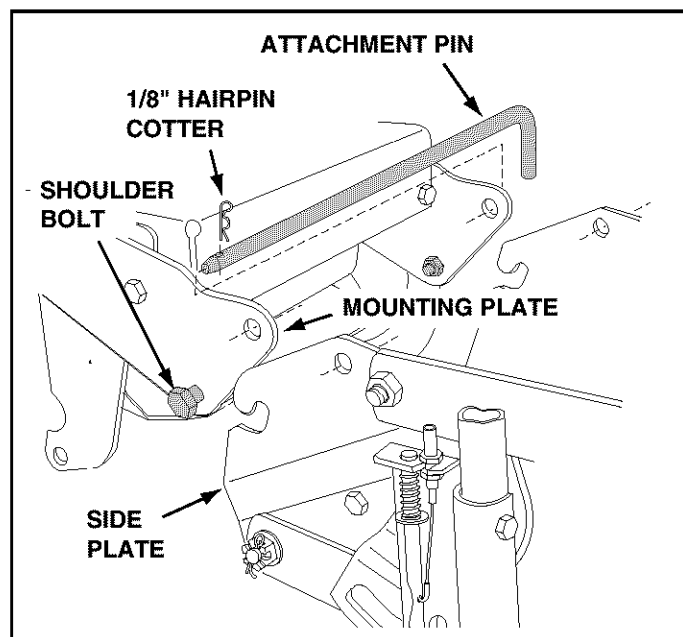
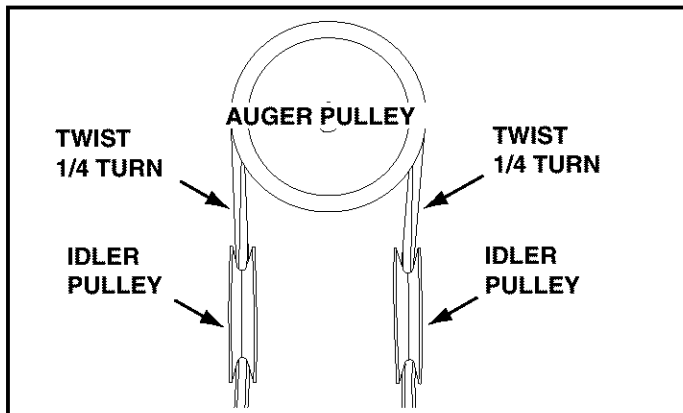

FIGURE 21 RIGHT SIDE VIEW
FIGURE 22
- To ease the assembly of the auger drive belt, delay the installation of the attachment pin shown in figure 21 until you have assembled the belt as instructed for figures 22 and 23.
- The auger belt comes preassembled to the pulleys on the snow thrower housing. Make sure the belt passes over the top of the auger pulley and then twists 1/4 turn to pass underneath each side idler pulley. The "V" side of the belt must mate with the grooves of the pulleys. See figure 22.
- Lift the front of the snow blower to align the holes in the mounting plates and the side plates. From the left side of the tractor install the attachment pin through the holes, securing it with the 1/8" hairpin cotter. Refer back to figure 21 on page 11.